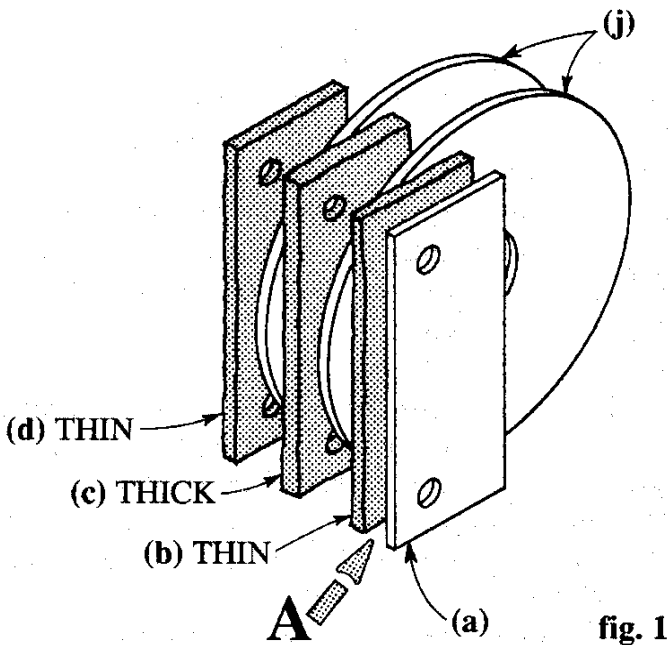

fig. 1
STEP 1 First remove the existing brakes from your car and clean the area if necessary. Then, as shown at point "A" in fig. 1, glue one of the thin brake linings (b) to the steel shoe (a) using contact cement, such as 3M #8001. Do not make the glue joint too thick.
STEP 4 Now slide the two steel brake rotors (j) between the brake shoes from the forward side (figs. 1 and 3). When the rotors are between the linings, they should be free to turn, NOT TIGHT. If the rotors are tight in the lining, your glue joint may be too thick. Simply remove the linings and sand the two thin linings (b, d) to make them a little thinner. DO NOT sand the thick lining. Then recheck the rotors to see if they're free.